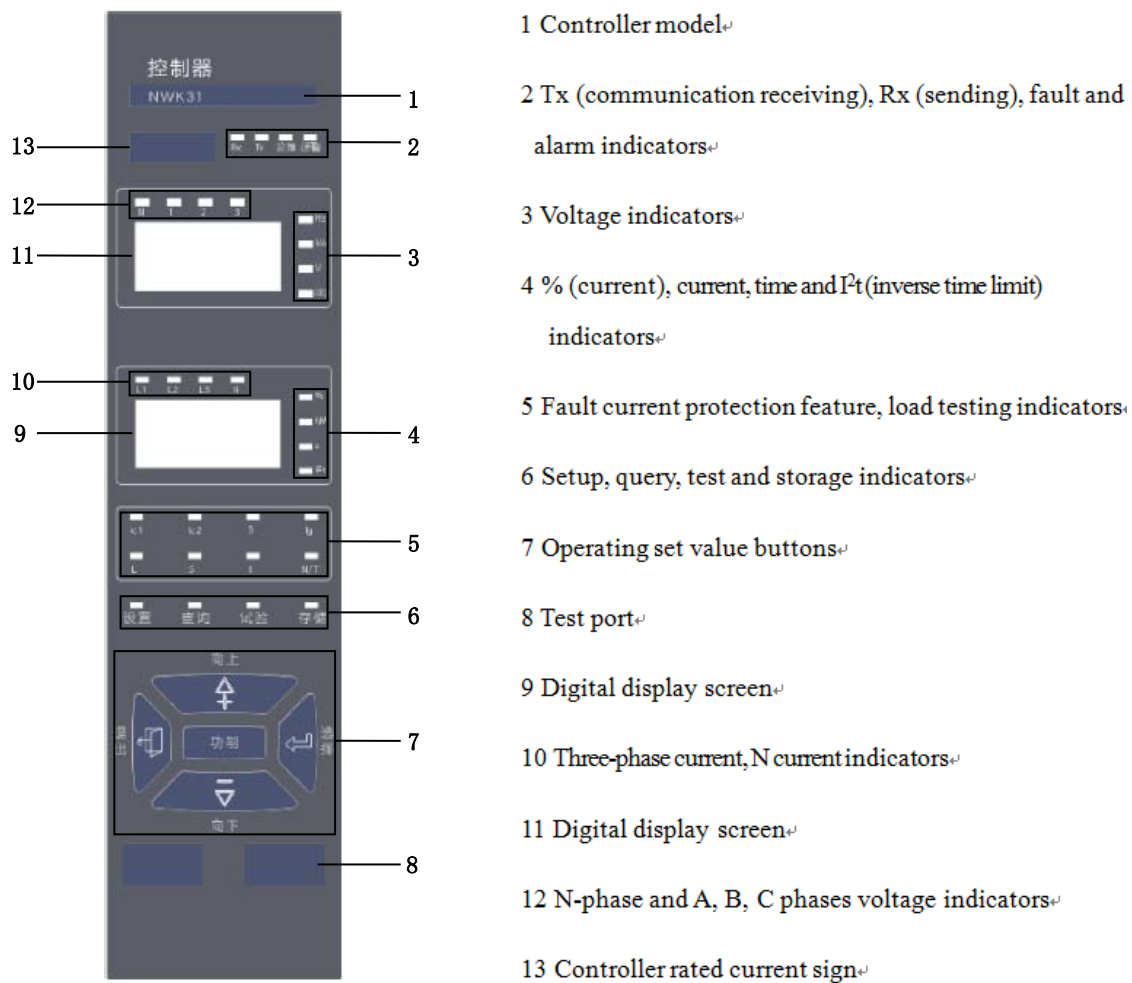

Figure 4
1) NWK31 controller, as shown in Figure 4